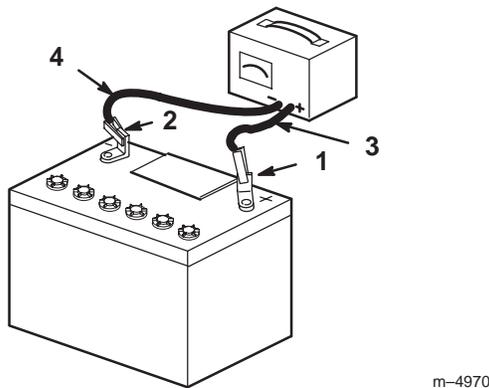

Figure 50
- When the battery is fully charged, unplug the charger from the electrical outlet, then disconnect the charger leads from the battery posts (Fig. 50).